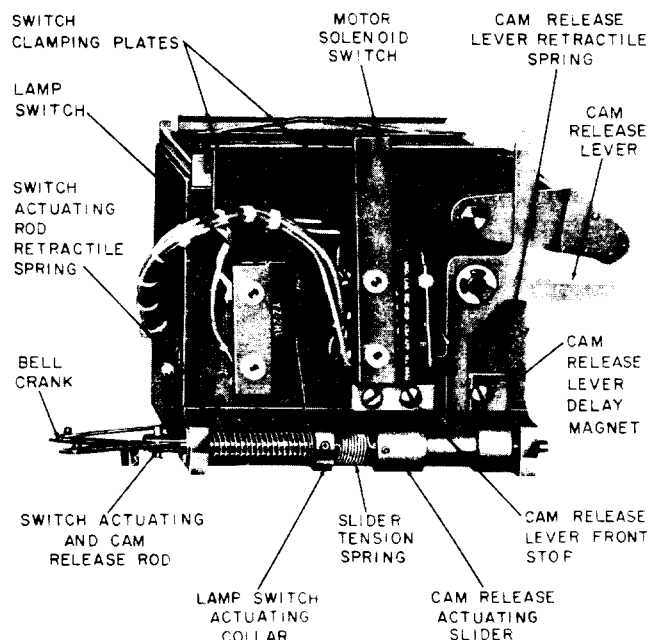

Fig. 14 — Lamp and Motor — Solenoid Switches (Image Chamber Removed from Camera)
(2) Connect and solder the leads to the new switch. Mount the new switch and tighten the mounting screws friction tight making sure the washers and spacer are in place. Remount the trigger stop screw (round head screw that also serves as a hood mounting screw). Position the switch so that it operates while the trigger is being pulled and so that there is slight additional movement of the switch actuator when the trigger arm is against the trigger stop screw. Securely tighten the switch mounting screws. Remove the trigger stop screw. Remount the hood.
3.28 Lamp and Motor-Solenoid Switches: Fig. 14 —
3.32 *Cam Release Lever Delay Magnet:* Fig. 14 —
(1) Remove the image chamber as covered in 3.07. Remove the magnet mounting screw locknut on the inside of the image chamber with the KS-2630 wrench taking care not to lose the lockwasher under the nut. Remove the magnet mounting screw with the 3-inch C screwdriver and remove the clamping plate, magnet, and two grit cloth pads.
(2) Substitute new parts as required and remount the parts in reverse order of removal. Position the magnet to meet the position of cam release lever delay magnet requirement covered in Section 030-301-701, and tighten the mounting screw and locknut securely. Remount the image chamber.
3.33 *Cam Release Lever Front Stop:* Fig. 14 —
3.34 General: To replace any of these parts, remove the image chamber as covered in 3.07. Then remove the switch actuating and cam release rod (Fig. 14) from the image chamber as follows: Move the lamp switch actuating collar away from the retaining ring which locates it on the rod just far enough to grasp the ring with the P-long-nose pliers. Grasp the ring at the center projection and pull the ring from the rod. Remove the rod and the parts which were mounted on it. After replacing parts as covered
Fig. 14 — Substitute the new spring and remount the actuating rod on the image chamber with the associated parts in place on the rod as shown in Fig. 14. Remount the retaining ring on the rod.
Fig. 14 — Remove the slider setscrew using the R-2653 wrench and mount the screw in the new slider. Remount the actuating rod on the image chamber with the associated parts in place on the rod as shown in Fig. 14. Insert the end of the slider tension spring in the associated hole in the slider. Remount the retaining ring on the rod. Position the slider to meet the position of cam release actuating slider requirement covered in Section 030-301-701. Securely tighten the slider setscrew against the spring and recheck the requirement.
3.37 Slider Tension Spring: Fig. 14 — Loosen the setscrews in the lamp switch actuating collar and the actuating slider using the R-2653 wrench and remove the spring. Substitute the new spring and remount the actuating rod on the image chamber with the associated parts in place on the rod as shown in Fig. 14. Insert the ends of the slider tension spring in the respective holes in the lamp switch actuating collar and the slider. Remount the retaining ring on the rod. With the cam release lever against the delay magnet, hold the slider against the lever. Position the slider spring so that the turns are approximately centered between the collar and the slider. Make sure that the end of the spring which enters the collar does not protrude beyond the switch actuating surface of the collar and tighten the collar setscrew against the spring. Position the slider to meet the position of cam release actuating slider requirement covered in Section 030-301-701 and securely tighten the slider setscrew against the spring. Recheck the requirement.
3.38 Lamp Switch Actuating Collar: Fig. 14 —
as shown in Fig. 14. Insert the end of the slider spring in the associated hole in the collar. Remount the retaining ring on the rod. Position the slider to meet the position of cam release actuating slider requirement covered in Section 030-301-701. Securely tighten the collar setscrew against the spring and recheck the requirement.
Fig. 14 — Remove the retaining ring which secures the cam release lever on its pivot as follows: Insert the blade of the KS-6854 screwdriver in one of the openings in the ring and turn the screwdriver toward the center projection of the ring to disengage the ring from the lever pivot. Remove the cam release lever and the retractile spring. Substitute the new spring and remount the lever, spring, and retaining ring. Remount the actuating rod with the associated parts in place on the rod as shown in Fig. 14. Remount the retaining ring on the rod.